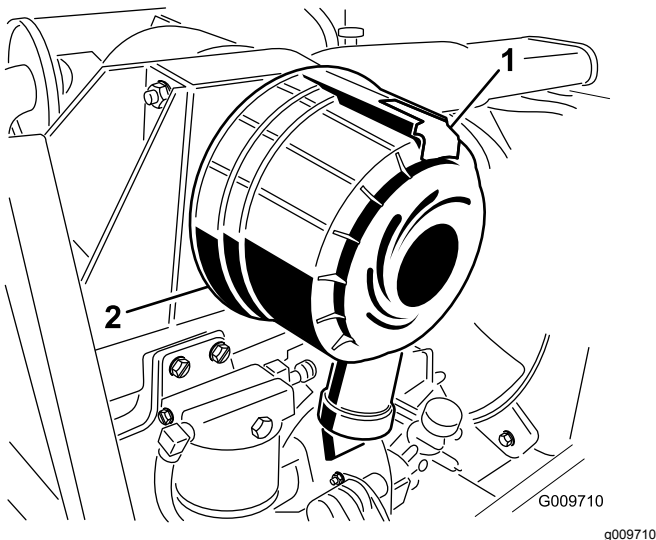

Figure 29
1. Pull the latch outward and rotate the air cleaner cover counterclockwise (Figure 29).